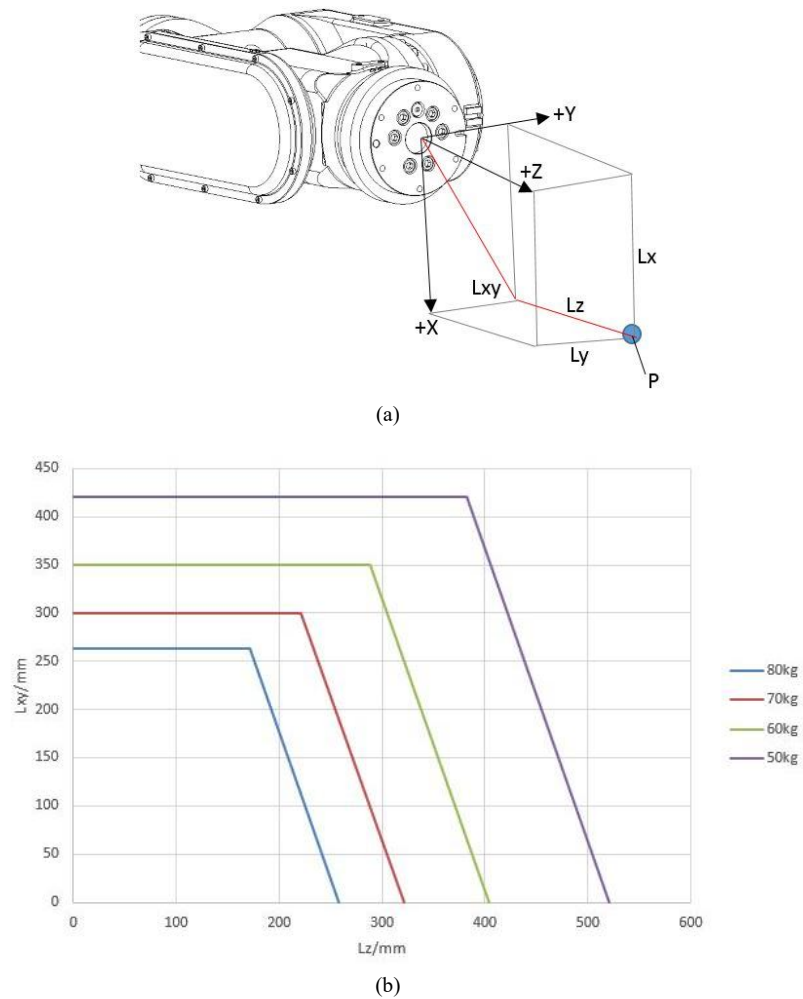

Figure 716 Schematic diagram of the center of mass position of the wrist load for RX3-A680-2260/RX3-A680-2560
- For loads with a mass not exceeding 80kg, the centroid positions L_{xy} and L_z must fall within the range of the corresponding wire frames shown in Figure 716(b). Figure 716(a) defines these positions: L_{xy} represents the distance from the flange plane projection of the load's centroid to the origin, while L_z denotes the distance from the flange axis projection of the load's centroid to the origin.